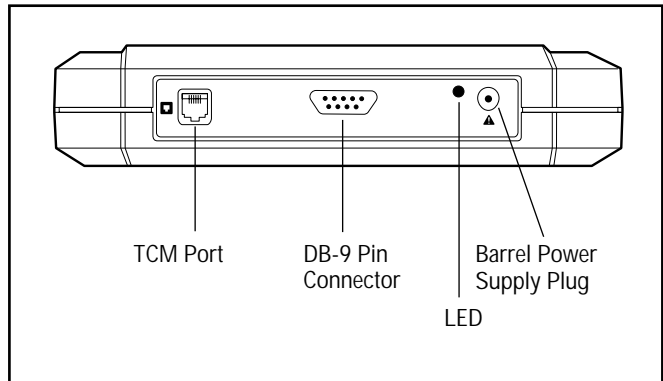

Figure 2 – KSU connection
1. Plug the barrel connector of the power supply into the power connector of the FastRAD and the other end into the wall outlet. See Figure 2.
6. Connect one end of the RJ-11 teladapt cord to the TCM port on the side panel of the FastRAD. See Figure 2.